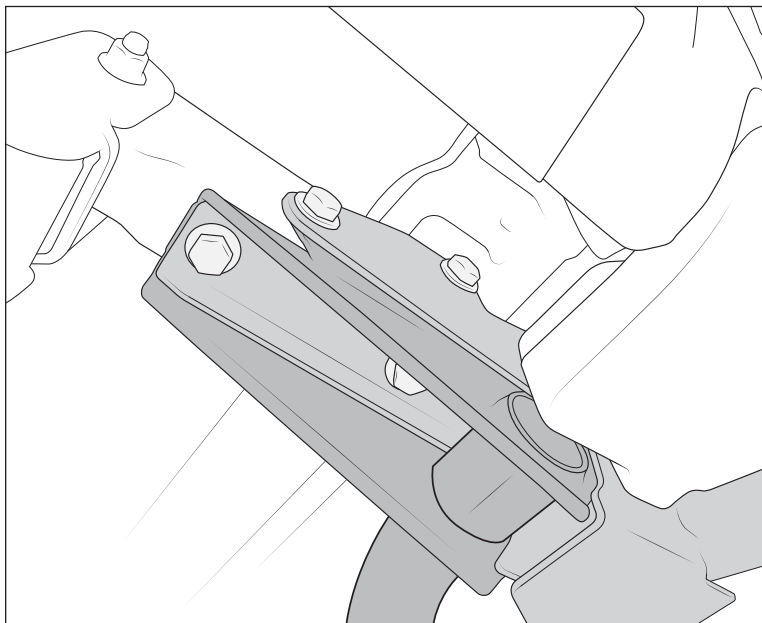

Figure 11: LH side shown
- C. Start 4 M14 Bolts into bottom of frame rails (fig. 11).
- D. Start 4 M14 Bolts into side of frame rails (fig. 11).